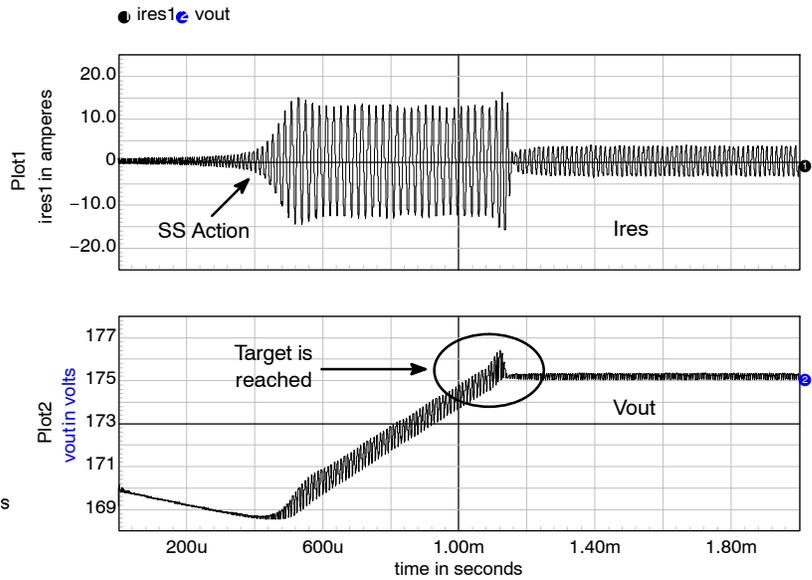

**Figure 42. Soft-Start Behavior**
The Brown-Out circuitry (BO) offers a way to protect the resonant converter from low DC input voltages. Below a given level, the controller blocks the output pulses, above it, it authorizes them. The internal circuitry, depicted by Figure 42, offers a possibility to observe the high-voltage